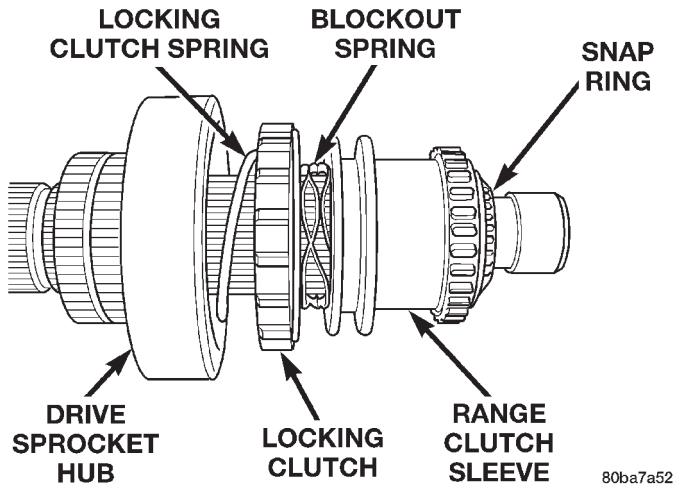

Fig. 28 Range Clutch Sleeve, Blockout Spring, Locking Clutch and Spring
- (6) Remove snap ring holding clutch sleeve onto mainshaft.
- (7) Remove range clutch sleeve, blockout spring, locking clutch, and locking clutch spring from mainshaft (Fig. 28).